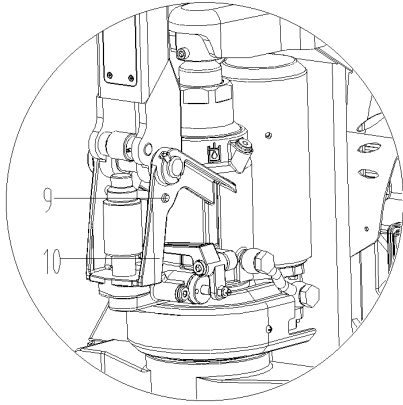
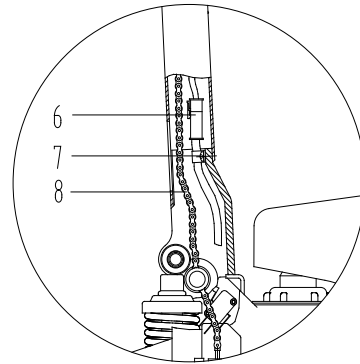

Figure 2
Figure 3
- 4.2 Refer to Figure 2, Loose the screw 3, remove the cover plate 4 from handle assembly 5.
- 4.3 Refer to Figure 3, 4, Insert handle assembly 5 (Fig. 2) into A (Fig. 1), connect handle assembly 5 to pump body 10 by pin 2. Thread the rod chain 8 through the hole of pin 2. Pull the handle to horizontal position, take out pin 9 and save it for next time use. Connect the wire of handle assembly 5 to the truck body through connector 6, tighten it with a harness for a reliable connection (see Fig.5). After that, fix it to handle assembly 5 by line card 7 according to Fig. 4.